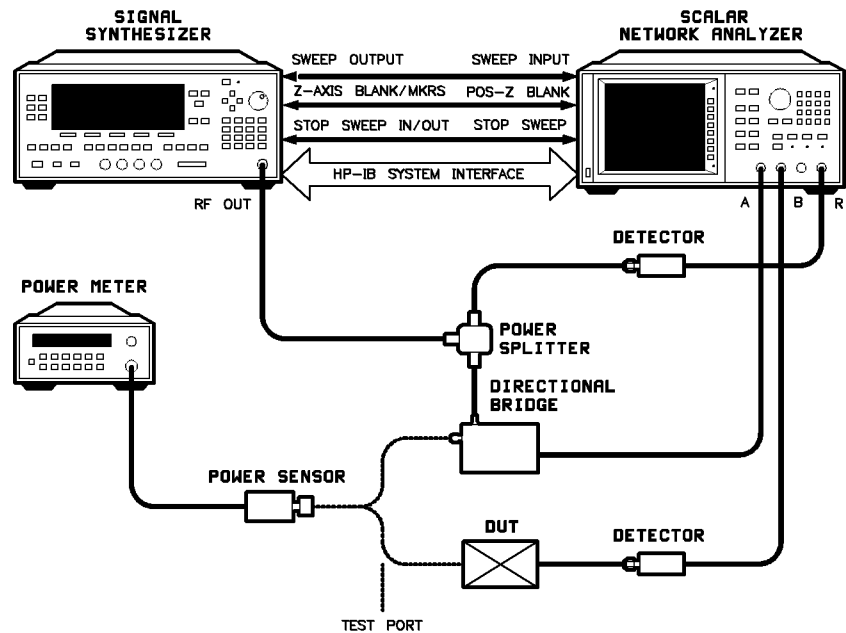

Figure 1-21. Scalar System Configuration
The following example demonstrates how to setup a scalar analysis measurement (using an HP 8757 Scalar Network Analyzer) of a 2 to 20 GHz test device such as, an amplifier. User flatness correction is used to compensate for power variations at the test port of a directional bridge. Follow the instructions to set up the synthesizer, then configure the system as shown in Figure 1-21.
1. The equipment setup shown in Figure 1-21 assumes that you have followed the steps necessary to correctly level the configuration. If you have questions about external leveling refer to earlier paragraphs titled, “Externally Leveling the Synthesizer.”